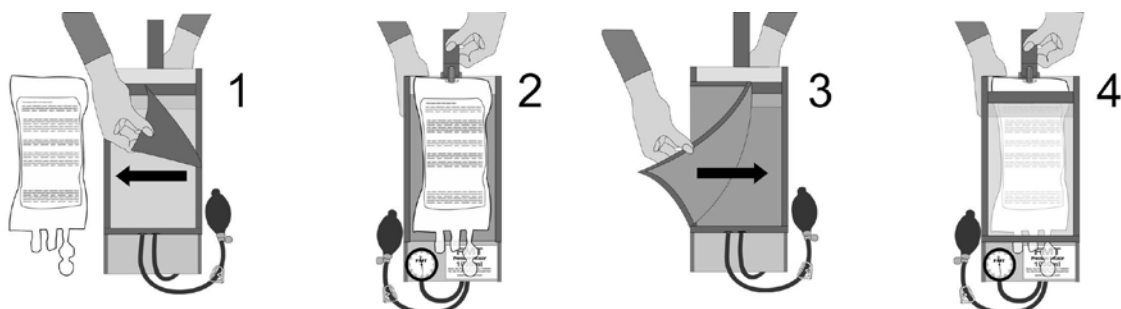

Figure 2: Application of IV fluid bag to the wrap-around type FMT-PI/10 1000ml pressure infusion cuff
- 2- Hang the pressure infusion cuff onto the IV pole by loop (1) located at the top of the cuff.
- 4- Hang the IV fluid bag on the cuff hook (2) located under the loop. Guide the IV tubing directly downwards.
- 5- Wrap the mesh panel firmly around the fluid bag and fasten it to Velcro at the backside of the infusion cuff (see Figure 2).
- 6- Open the pinch clamp (7) on the cuff delivery tubing.
- 7- Turn the thumbwheel of the air valve (5) clockwise to close the air valve vent.